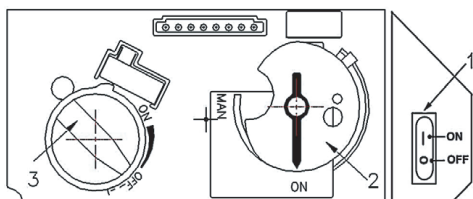
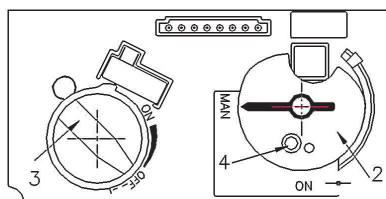
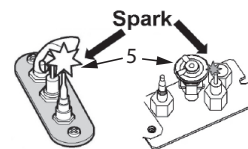

Fig 1
Fig 2
Fig 3
2. **SET ON/OFF SWITCH (1) TO "OFF" POSITION.**
- Wait five (5) minutes to clear out any gas, then smell for gas, including near the floor. If you smell gas, **STOP!** Follow "B" in the safety information above on this label. If you don't smell gas, go to the next step.
3. **AUTOMATIC IGNITION (fig. 1):** Locate the pilot (fig. 3.) inside of firebox at Left Hand side.
- ON/OFF switch (1) in ON position, MAN-knob (2) in ON position; set Flame Adjustment knob (3) to lowest setting (0);
- When the pilot is lit, the Flame Adjustment knob (3) will automatically rotate to the highest setting.
4. **MANUAL IGNITION (fig. 2):** With the window off, locate the pilot (fig. 3) inside of firebox at Left Hand side;
- ON/OFF switch (1) in ON position, MAN-knob (2) in MAN position;
- Set Flame Adjustment knob (3) to the lowest setting (0);
- Push down the metallic core (4) with a pen or similar instrument; this will establish the pilot gas flow;
- Light gas at the pilot (5) with a match;
- Continue holding down metal core (4) for about 10 seconds; after release, pilot should remain lit;
- If the pilot will not stay lit after several tries, turn the gas control knob (3) to "OFF" (0) and call your local service technician or gas supplier.